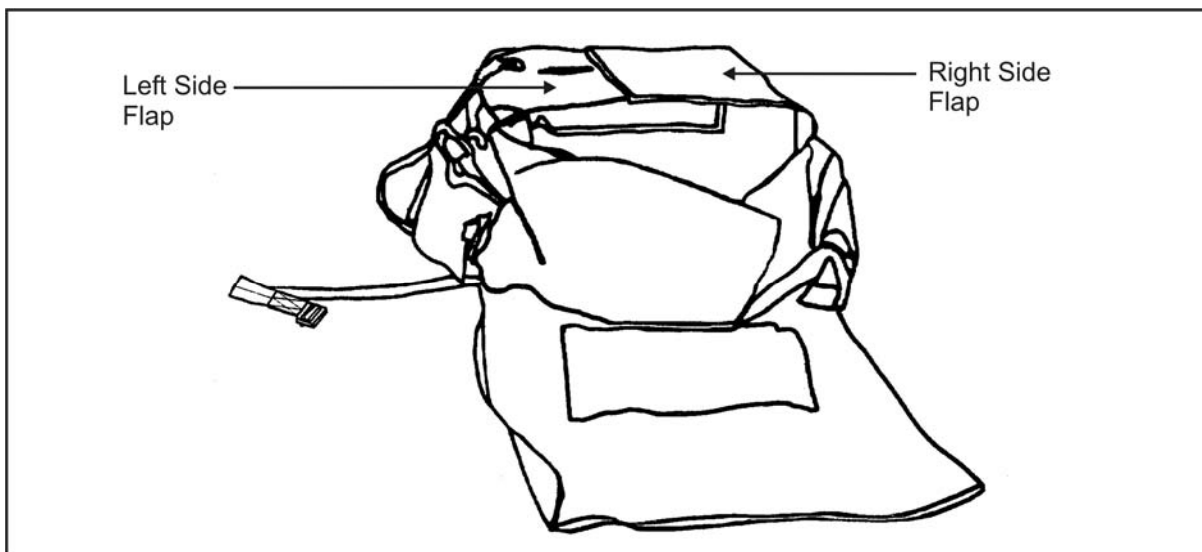

Figure 5-13. Opened SARPELS Cargo Carrier
- Loads personal supplies and equipment in the SARPELS cargo container in such a manner as to maintain the general shape of the cargo container (Figure 5-13, page 5-17). He does not load more than 110 pounds into the cargo container.